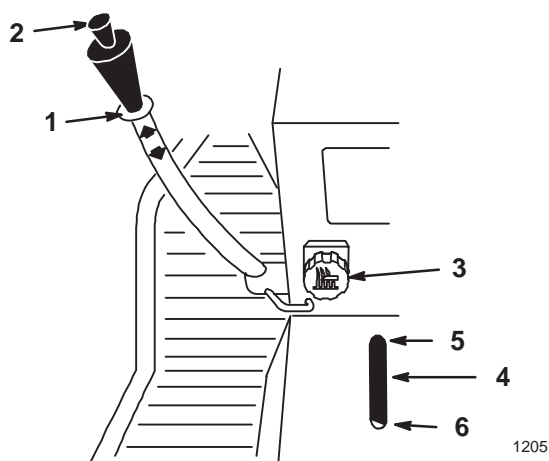

Figure 17
The attachment lift lever (Fig. 17) is used to raise and lower various attachments.
The Dial-A-Height control (Fig. 17) is used to limit the downward travel of the attachment. The Dial-A-Height knob is rotated to change the location of this stop, up or down.
1. Raise the attachment lift lever: Refer to Raising Attachments. In the raised position the Dial-A-Height knob (Fig. 17) can be rotated to change the stop location. Turn clockwise to raise and counterclockwise to lower the height of the attachment.
2. The Dial-A-Height indicator (Fig. 17) will show the change, high to low, in attachment lift height as adjustment is made.